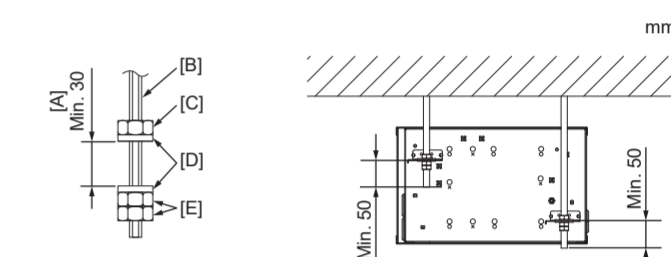
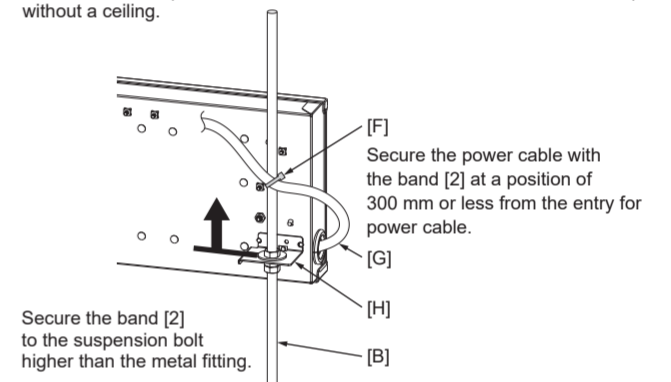

Fig. 4-2
Fig. 4-3
- (1) Install the suspension bolts (procured locally) at the specified pitch. (Fig. 4-2)
- (2) Fit the washers [3] and nuts (procured locally) to the suspension bolts. (Fig. 4-2)
- (3) Hang the Power Supply Interface for Alarm Kit [1] on the suspension bolts.
- (4) Fully tighten the nuts (check the ceiling height).
- (5) Use a level to adjust the Power Supply Interface for Alarm Kit [1] to the horizontal.
- (6) Secure the power cable to the suspension bolt with the band [2] included. (Fig. 4-3)